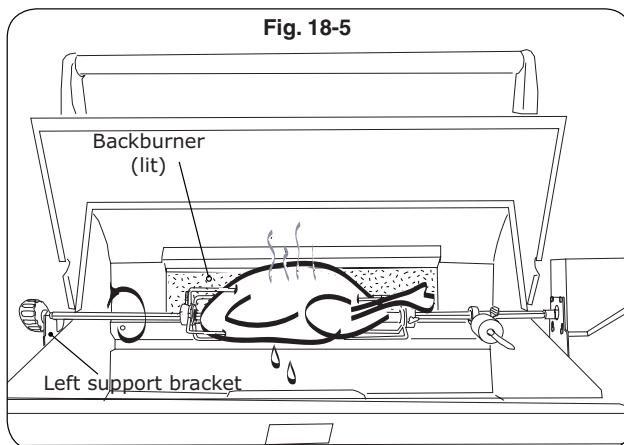

Fig. 18-5
9. Slide the counterbalance weight up or down the arm until the rod rotates most evenly then tighten thumb screw (Fig. 18-5).